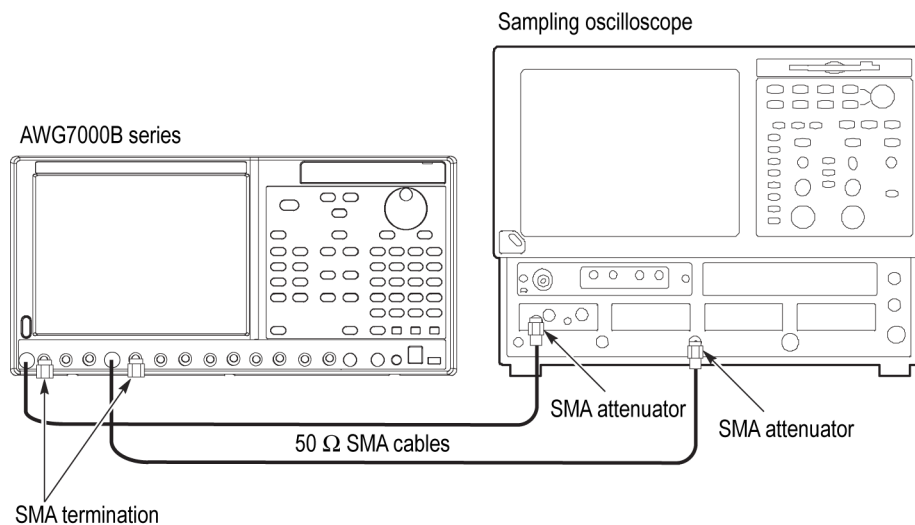

Figure 7: Interleave calibration initial hookup
- Attach the SMA terminations to the Interleave (-) Output and the Channel 1 Marker 1 (-) Output on the front panel of the arbitrary waveform generator. (See Figure 7 on page 22.)